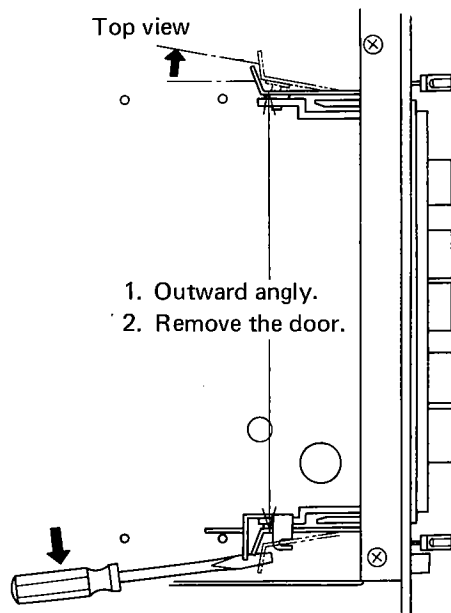

Fig. 29
## 10.7 REPLACING PLASTIC DOOR (Fig. 29,30)
3. Use a screwdriver to bend the angles shown in Fig. 29 outward and remove the door.